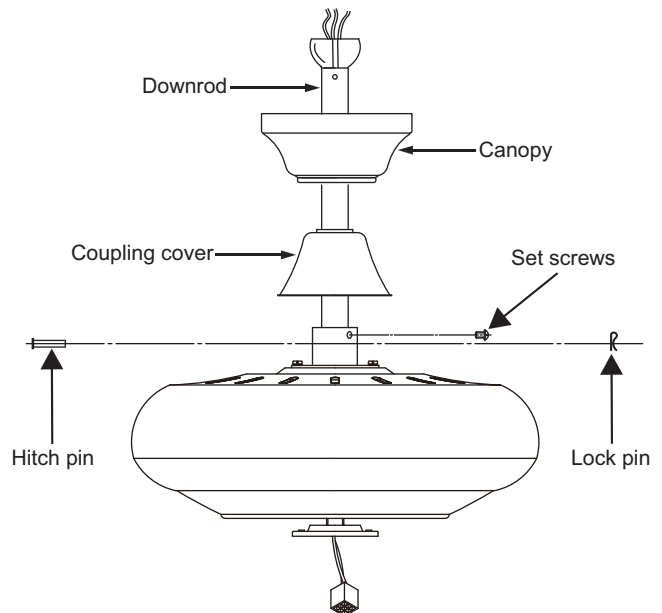

Figure 6
Step 3. Remove the canopy ring from the canopy. (Fig. 6)
Step 5. Route wires exiting from the top of the fan motor through the coupling cover and canopy and then through the ball/downrod. (Fig. 6)
Step 6. Align the holes at the bottom of the downrod with the holes in the collar on top of the motor housing (Fig.6). Carefully insert the hitch pin through the holes in the collar and downrod. Be careful not to jam the pin against the wiring inside the downrod. Insert the locking pin through the hole near the end of the hitch pin until it snaps into its locked position, as noted in the circle inset of Fig. 6.
Step 7. Tighten two set screws on top of the fan motor firmly. (Fig. 6)